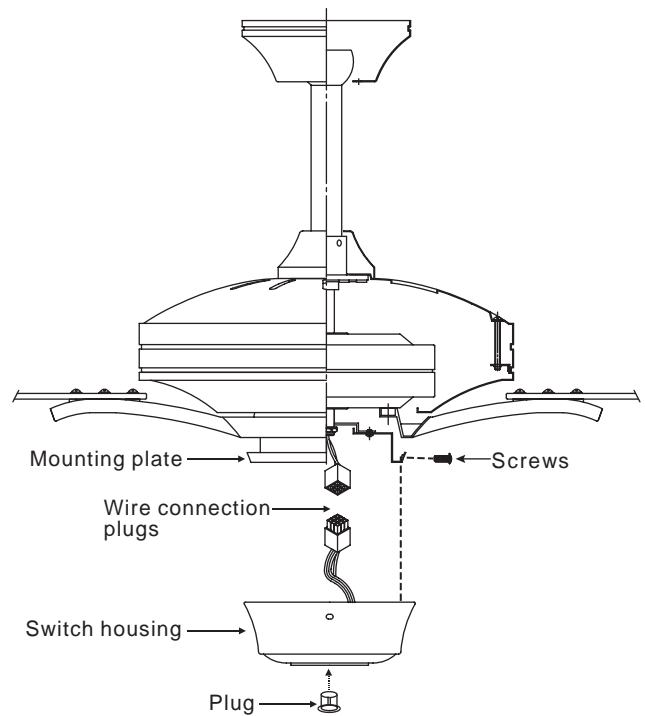

Figure 18
2. Attach the plastic plug to the switch housing. (Fig. 18)
4. Install the switch housing to the mounting plate with screws provided. (Fig. 18)